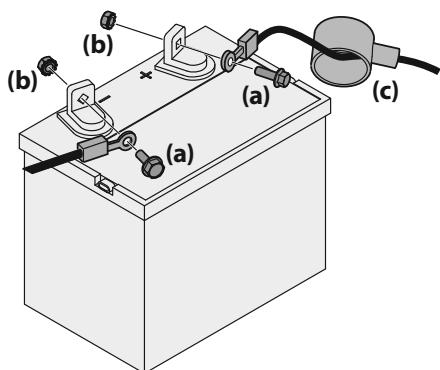

Figure 14
1. If present, remove the plastic cover from the positive battery terminal. Attach the red connector to the positive battery terminal (+) using the bolt (a) and hex nut (b). See Figure 14.
2. If present, remove the plastic cover from the negative battery terminal and attach the black cable to the negative battery terminal (–) with the bolt (a) and hex nut (b). See Figure 14.
3. Position the red rubber boot (c) over the positive battery terminal (+) to help protect it from corrosion. See Figure 14.